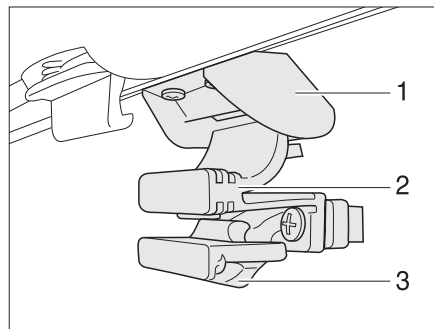

Fig. 49 Window in the conversion door
- Press the locking device (Fig. 49,3) to the rear.
- Press the handle (Fig. 49,2) together and push the window down.
- Push the window upwards until the handle (Fig. 49,2) latches into the locking mechanism (Fig. 49,1).